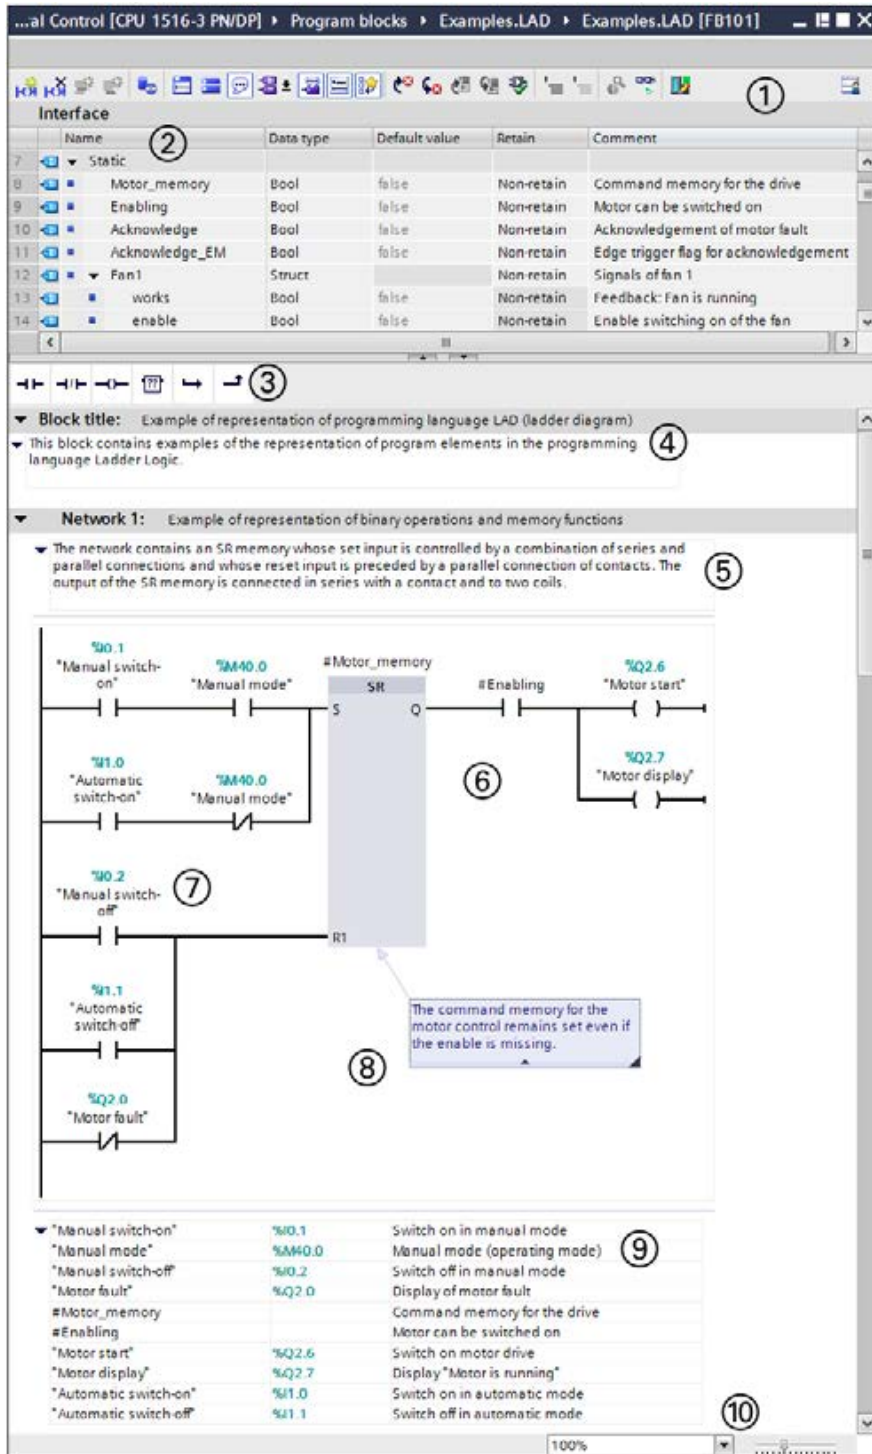

Fig. 7.1 Working window of the program editor for LAD programming
Fig. 7.1 shows the program editor's working window. The icons in the toolbar ① can be used to set the display of the working area, e.g. the display of the network comments and additional functions such as monitoring of the program status. The interface of the block ② in the upper part of the working window lists the block parameters and local data. The favorites bar ③ can be expanded by additional program elements. It can also be hidden. Each block has a heading, the block title, and a block comment ④, which can be used to explain the function of the block. These are followed by the first network with its number, heading and comment ⑤.